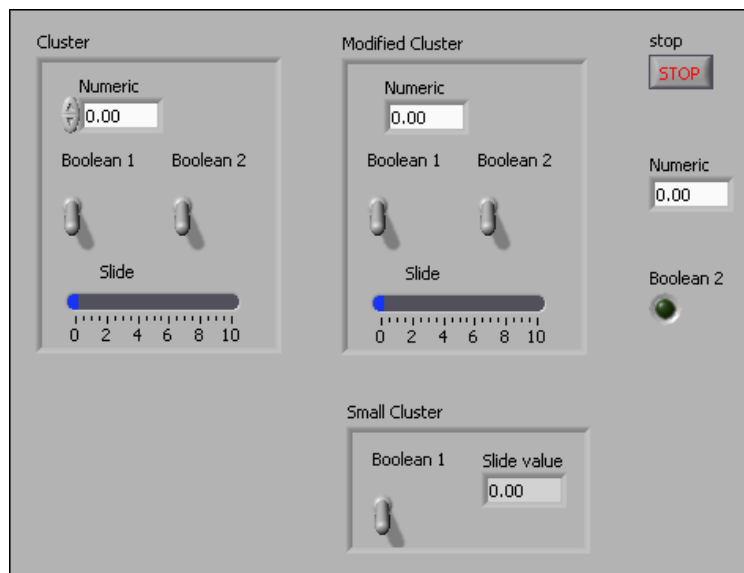

Figure 6.7
1. Open a blank VI and build the front panel in Figure 6.7.
- (e) Copy Modified Cluster and relabel it to create Small Cluster. Remove the second toggle switch and horizontal fill slide indicators. Relabel the numeric indicator to Slide value. Resize the cluster as shown in Figure 6.7.